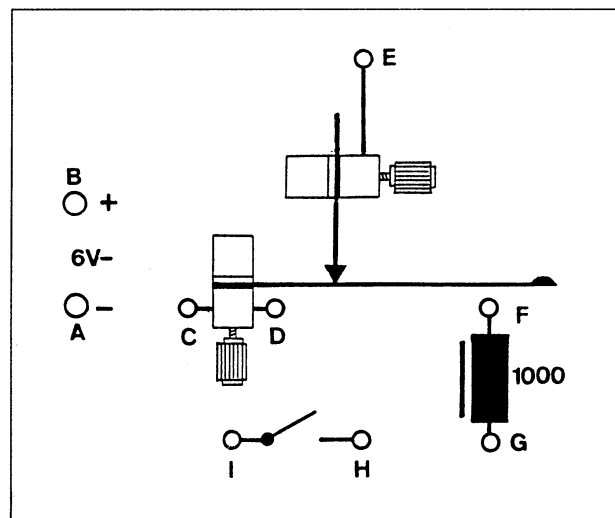

Fig. 3 Schematic drawing of the elements of a buzzer as shown in Fig. 1. The connection points are labelled with capital letters.
- Fig. 3 is a schematic drawing of the circuit, but without the connections which must be made using connecting leads. If you compare this drawing with Fig. 1, you can see which points must be connected with each other. What are these points?
- Draw the missing connections in Fig. 3.
9. We can think of the leaf spring of the buzzer as the clapper of a bell. Where would we put the bell dome? Draw the position of the bell dome as a dashed circle in the circuit diagram in Fig. 3.